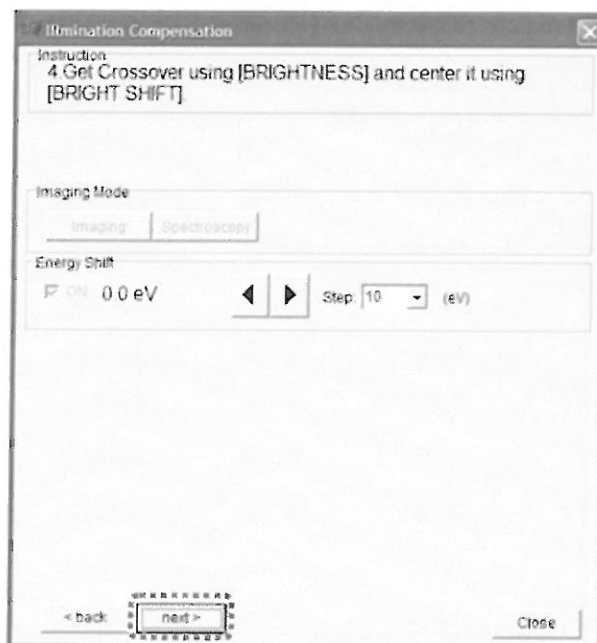

Fig. 5.52 Illumination Compensation - 4. Get Crossover using [BRIGHTNESS] and center it using [BRIGHT SHIFT]
4. Follow "Instruction – 4. Get Crossover using [BRIGHTNESS] and center it using [BRIGHT SHIFT]", and operate the BRIGHTNESS knob (L1-⑦) for crossover. Then use the BRIGHT SHIFT (L1-⑧, R1-④) to shift to the center (Fig. 5.52). After the shift is complete, press the **next** button to proceed.